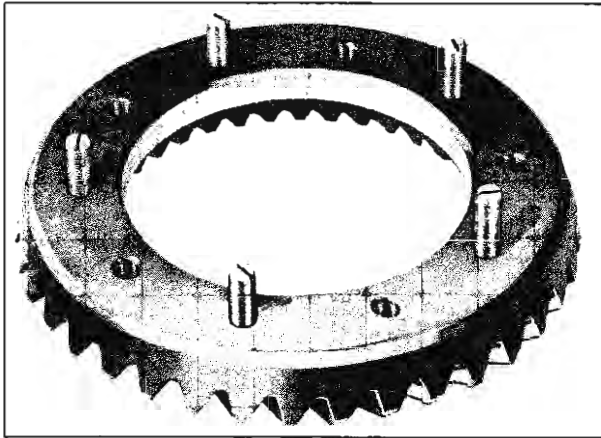

Fig. 26—Guide Pins in Ring Gear
3. Install guide pins made from $\frac{3}{8}$ "-24 x $1\frac{1}{2}$ " long cap-screws with heads cut off and ends slotted to ring gear (fig. 26).